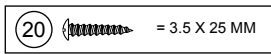

FIG. 4A
15) Plug the 12 DC Adaptor (#47) power cord into to the Control Box (#44). See Fig. 4A.